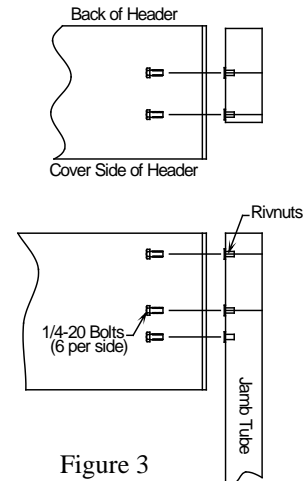

Figure 3
3. Position the jamb tubes on each end of the header. Fasten with the provided 1/4-20 x 1 inch bolts into rivnuts in jambs. (See Figure 3) Refer to label on jamb for proper location.